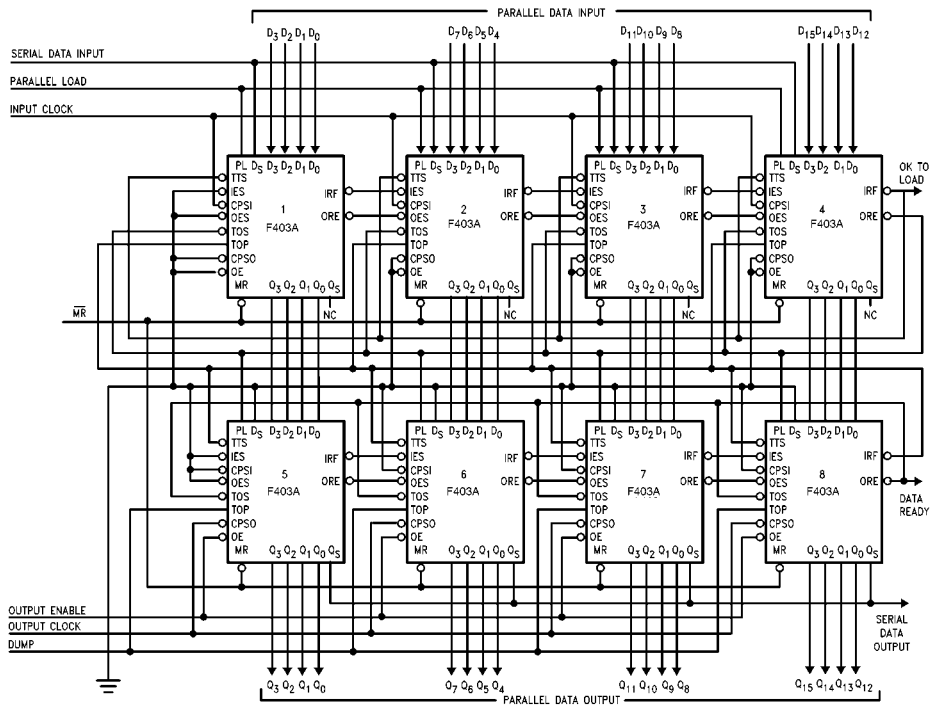
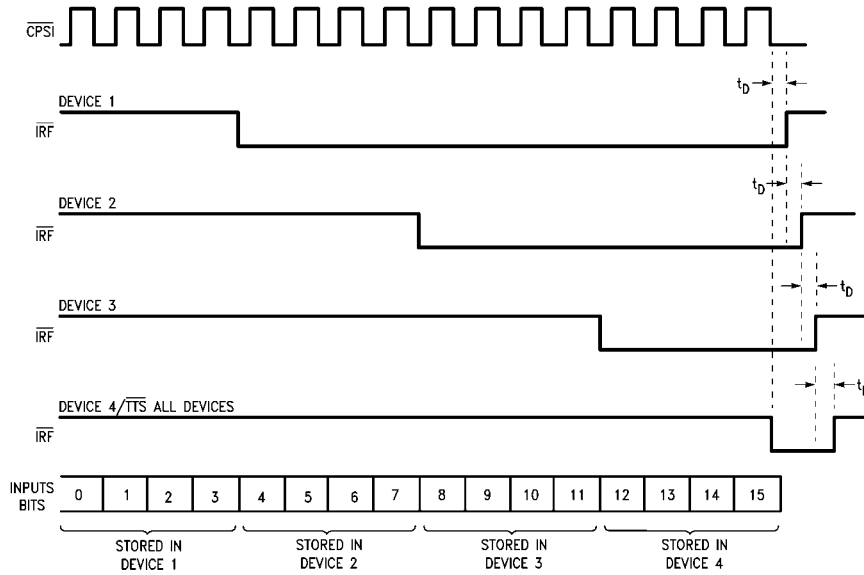
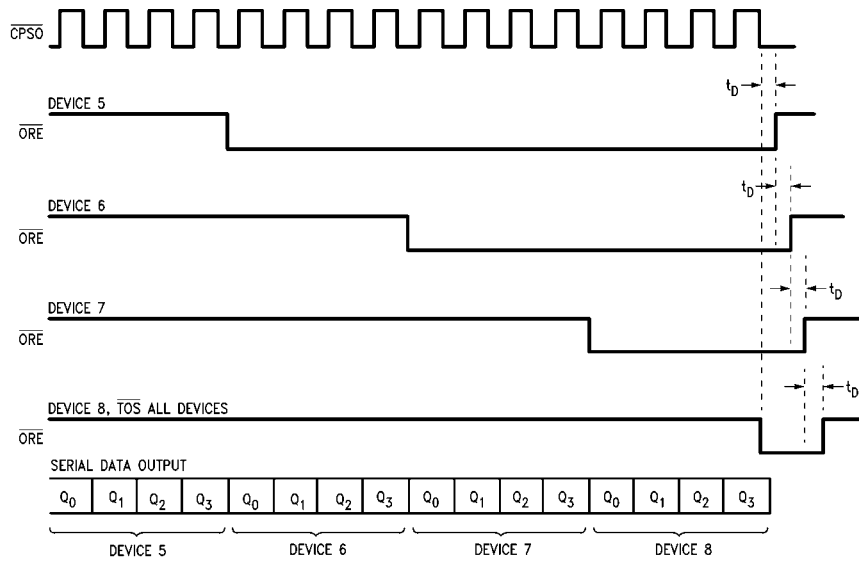
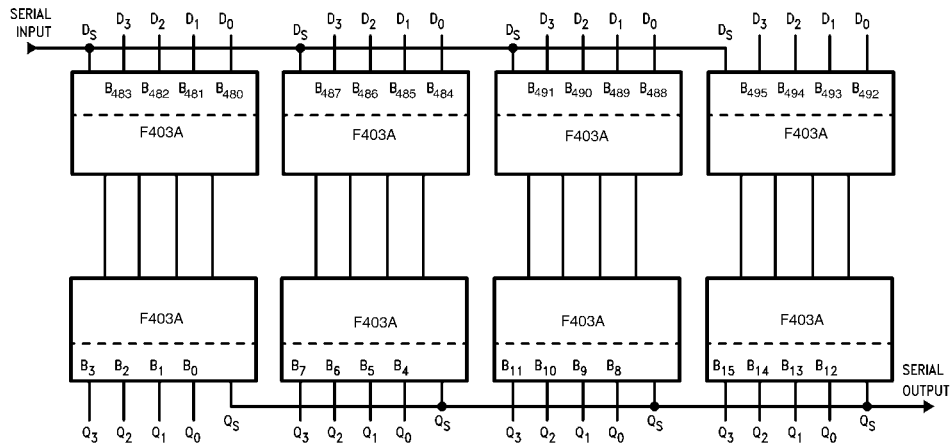

FIGURE 6. A 31 x 16 FIFO Array
FIGURE 7. Serial Data Entry for Array of Figure 6
FIGURE 8. Serial Data Extraction for Array of Figure 6
FIGURE 9. Final Position of a 496-Bit Serial Input
**Horizontal and Vertical Expansion—** The 74F403A can be expanded in both the horizontal and vertical directions without any external parts and without sacrificing any of its FIFO's flexibility for serial/parallel input and output. The interconnections necessary to form a 31-word by 16-bit FIFO are shown in Figure 6. Using the same technique, any FIFO of  $(15m + 1)$ -words by  $(4n)$ -bits can be constructed, where  $m$  is the number of devices in a column and  $n$  is the number of devices in a row. Figure 7 and Figure 8 show the timing diagrams for serial data entry and extraction for the 31-word by 16-bit FIFO shown in Figure 6. The final position of data after serial insertion of 496 bits into the FIFO array of Figure 6 is shown in Figure 9.
In the 74F403A array of Figure 6 devices 1 and 5 are defined as "row masters" and the other devices are slaves to the master in their row. No slave in a given row will initialize its Input Register until it has received LOW on its  $\overline{\text{IES}}$  input from a row master or a slave of higher priority.